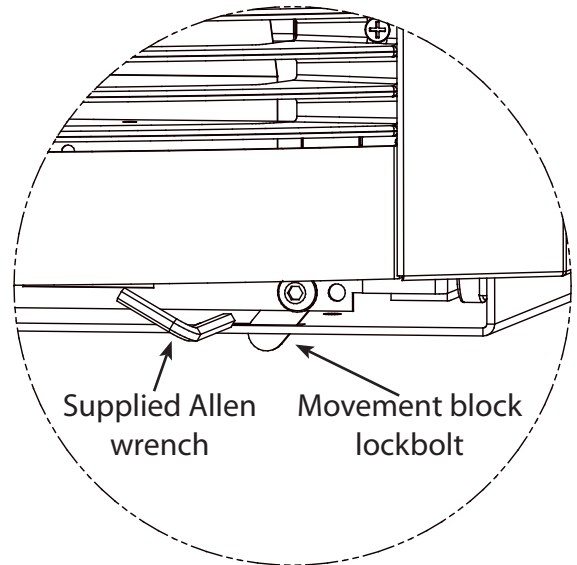

figure 6.4
Use the supplied Allen wrench to turn the lockbolt clockwise (figure 6.4).
- ❖ Use the supplied Allen wrench to turn the lockbolt clockwise (figure 6.4).